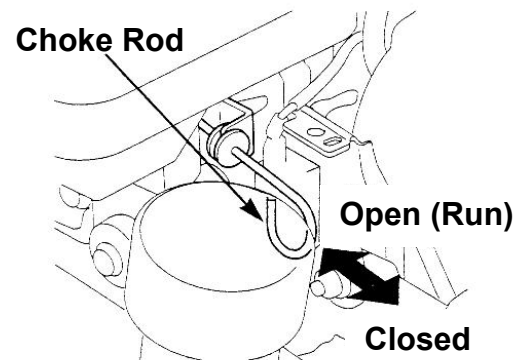

Figure 17
1. When starting a cold engine; pull the choke rod (*Figure 17*) to the Closed position.
4. After the engine starts, return the choke to the Open (Run) position (*Figure 17*).